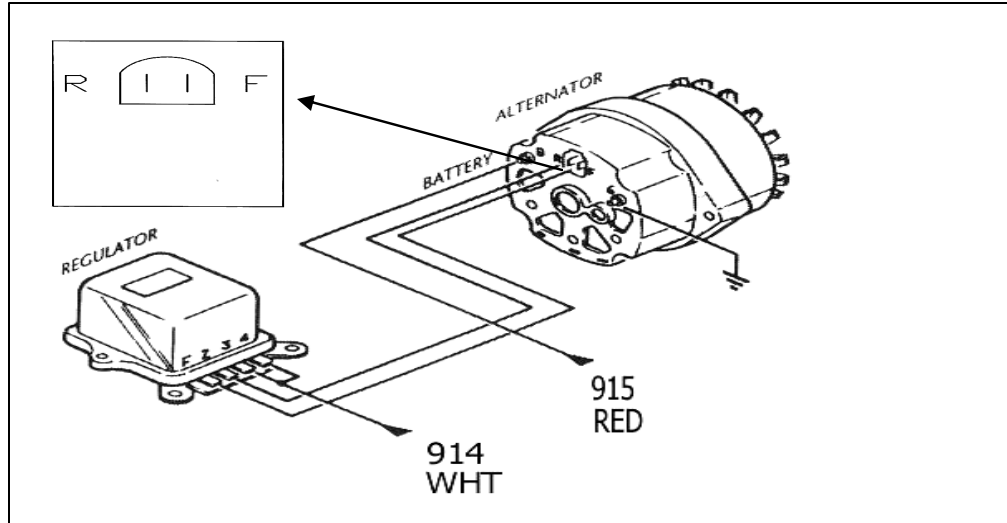

Figure 7-3 Early GM Alternator - External Regulator
7.3 Early GM Alternator (before 1969) - External Regulator. See Figure 7-3.